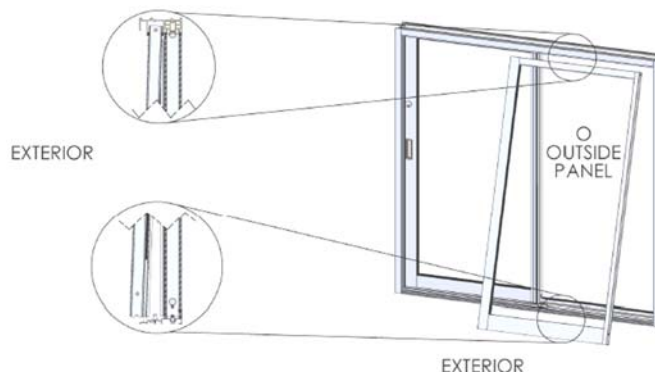

Figure 14:
4. Insert the fixed panel (weather-strip facing inside) into the center channel of the head, as far to the sliding side of the frame as possible. Push up and swing the bottom of the panel in and down so that the bottom rail rests in the grooves of the sill (Figure 14).